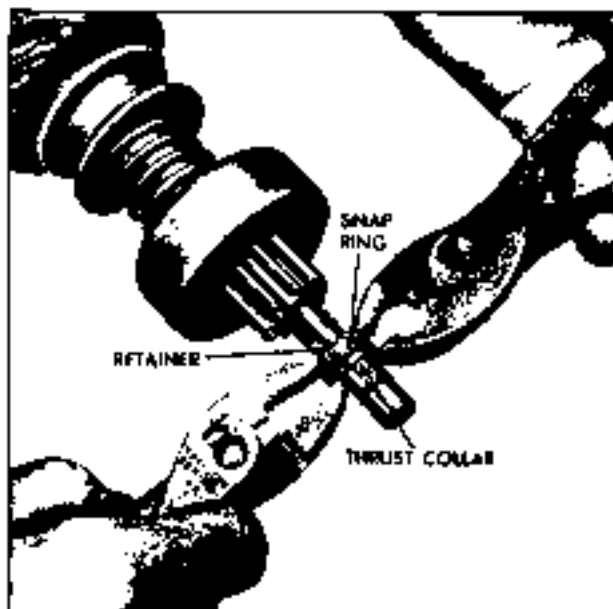

Fig. 6E-8 Forcing Retainer Over Snap Ring
commutator down. Position snap ring on upper end of shaft and hold in place with a block of wood. Hit wood block a blow with hammer, forcing snap ring over end of shaft. Slide snap ring past the grease groove to the snap ring groove (Fig. 6E-7).
e. Assemble thrust collar on shaft with shoulder next to snap ring (Fig. 6E-8).